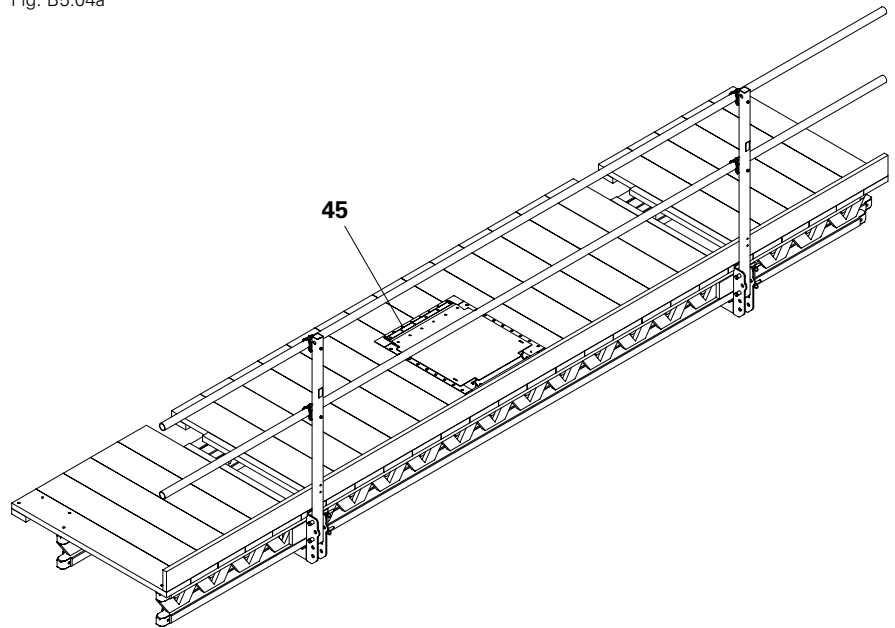

Fig. B5.04b
2. Secure frame of the hatch and decking using approx. 16x TSS Torx 6 x 40 (**45**) (**2 per plank**). (Fig. B5.04b)